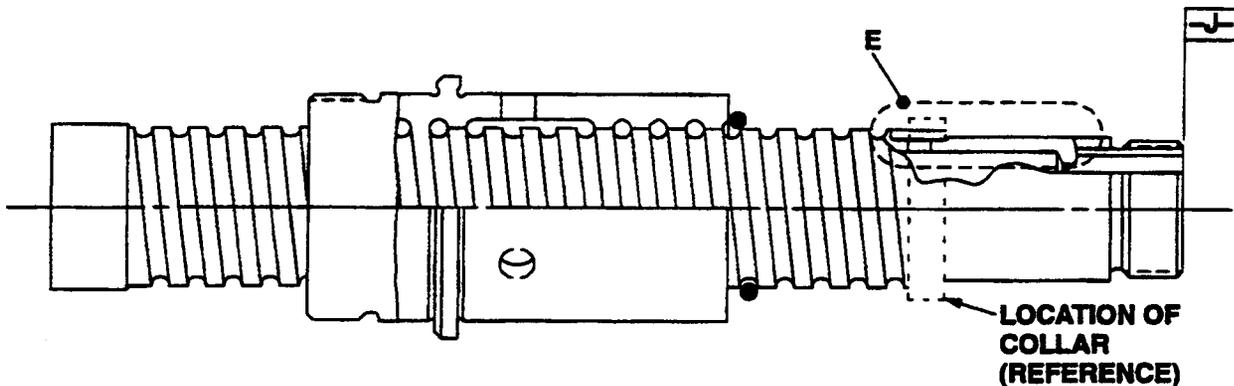
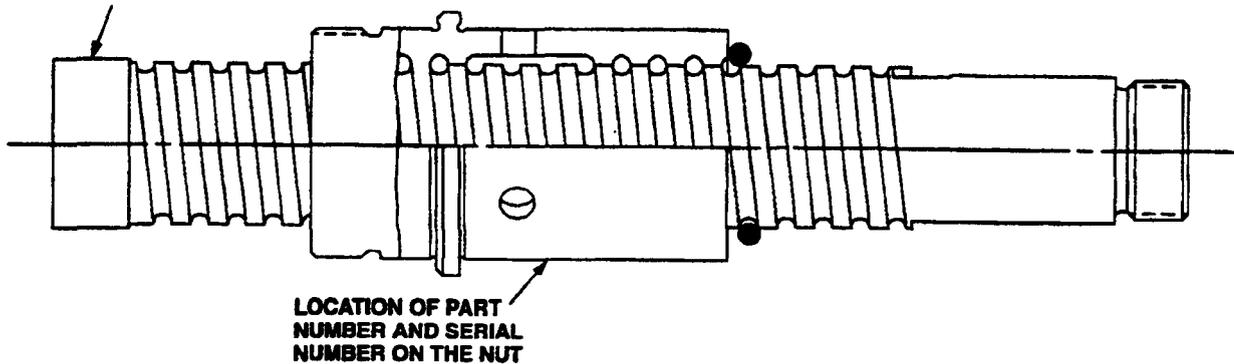

Figure 4. Make a Modification of the Servo Ballscrew
Figure 6. Part Number and Serial Number Locations on the Servo Ballscrew
- (d) Machine the servo ballscrew as shown in Figure 4, Figure 5, and Figure 6. Do this as follows:
- 1 Machine the ID of the ballscrew to get the 16 microinch surface finish along the area shown in View E of Figure 4.
- 2 Machine 3 flat areas on the OD at 3 locations equally apart as shown in View E of Figure 4. This will make the necessary surfaces for the heads of the new drive pins that you will install in a subsequent step.
- 3 Machine 3 holes through the ballscrew at 3 locations equally apart as shown in View E of Figure 4. These holes will be used for installation of the new drive pins.
- 8 Do a fluorescent penetrant inspection of the machined areas of the collar for signs of cracks. Use Type I, sensitivity level 2, and method B or method D as specified in MIL-STD-6866 and MIL-I-25135. If you do not find cracks, continue with step 9). If you find cracks, replace the collar with a serviceable collar from a different ballscrew and make the modification to the collar as specified in the previous steps. Make sure that the collar comes from a ballscrew that has the same part number on it as the ballscrew that you have changed. Refer to the NOTE that follows step 11 a for information on possible ballscrew part numbers. Refer to Figure 6 for the location of the part number on the ballscrew.
- a Refer to Figure 6 for the location of the part number and serial number on the nut, and possible serial number on the ballscrew.
**NOTE:** PN 790102-1 is not found on the nut or ballscrew. It is a number used by Hamilton Standard for procurement of the ballscrew. The ballscrew will have one of three possible part number identifications on it as follows: 775715-1, 782748-1 or 792224-1. When you have completed steps (3)(a), thru (3)(d) and 11, and changed the applicable part number on the ballscrew as specified in the step that follows, you have made the equivalent change of PN 790102-1 to PN 790102-4.
- c On the land at the end of the ballscrew, as shown in Figure 6, add the same serial number that is found on the nut. Use the vibration peen or electrolytic etch method to add the number. Also, examine the land for a possible different serial number that could be on it. If you find a serial number that is not the same as the one on the nut, make a line through it. Again, use the vibration peen or electrolytic etch method to make the line.